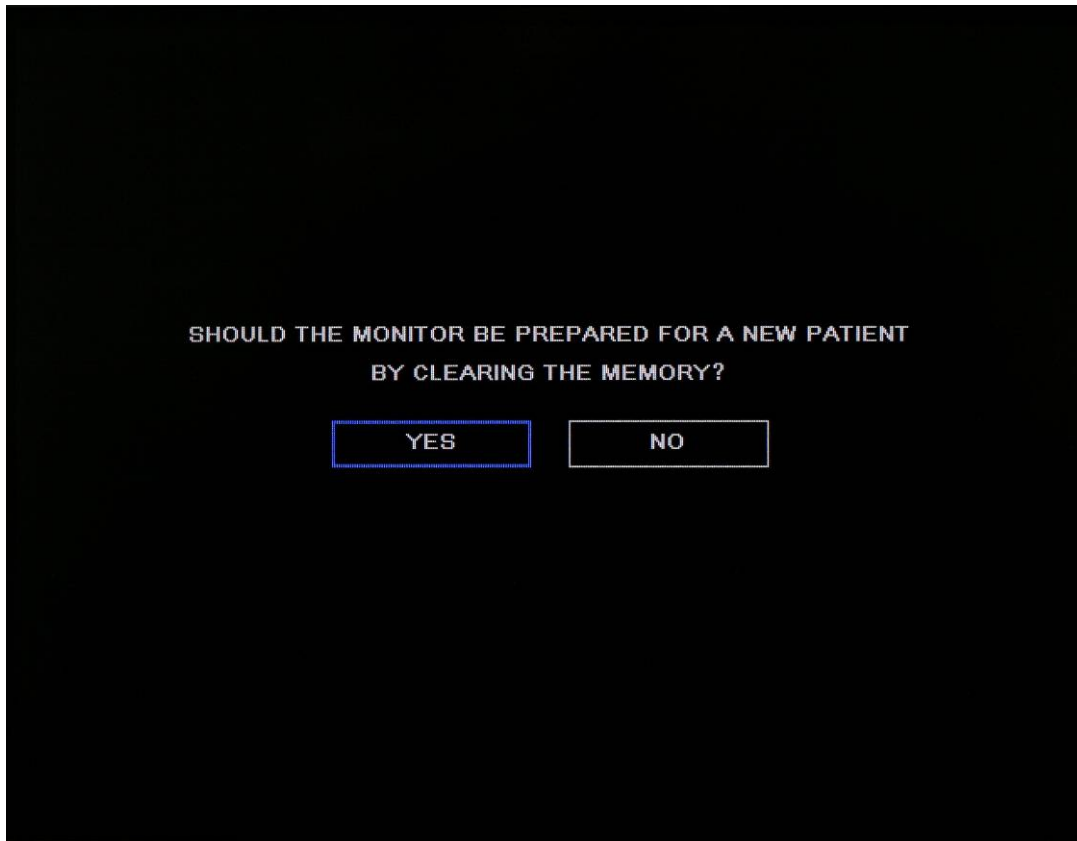

Figure 32 - Trend Memory Message
4. When the machine is turned on, a message appears, suggesting that you erase the trend memory in order to start a new patient without information from previous patients in the trend memory. This screen appears in Figure 32 - Trend Memory Message, below. Click *YES* to erase the trend memory. If you intend to continue measurement of the same patient as previously, you may want to retain the trend memory. In that case, click *NO*. If you record patient data as part of a case, trend memory will always be erased when you close the case.